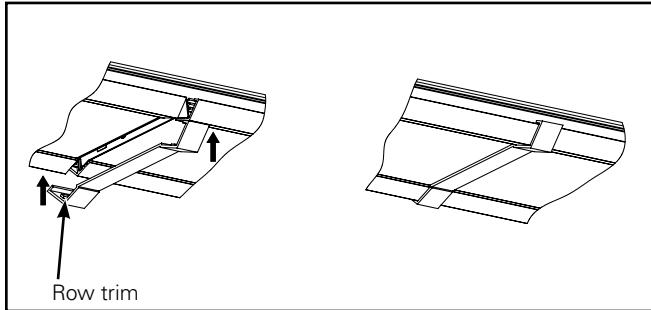

Figure 14.
8. Remove protective film from the waveguide. Install Trim provided, between waveguides. (Figure 14.)